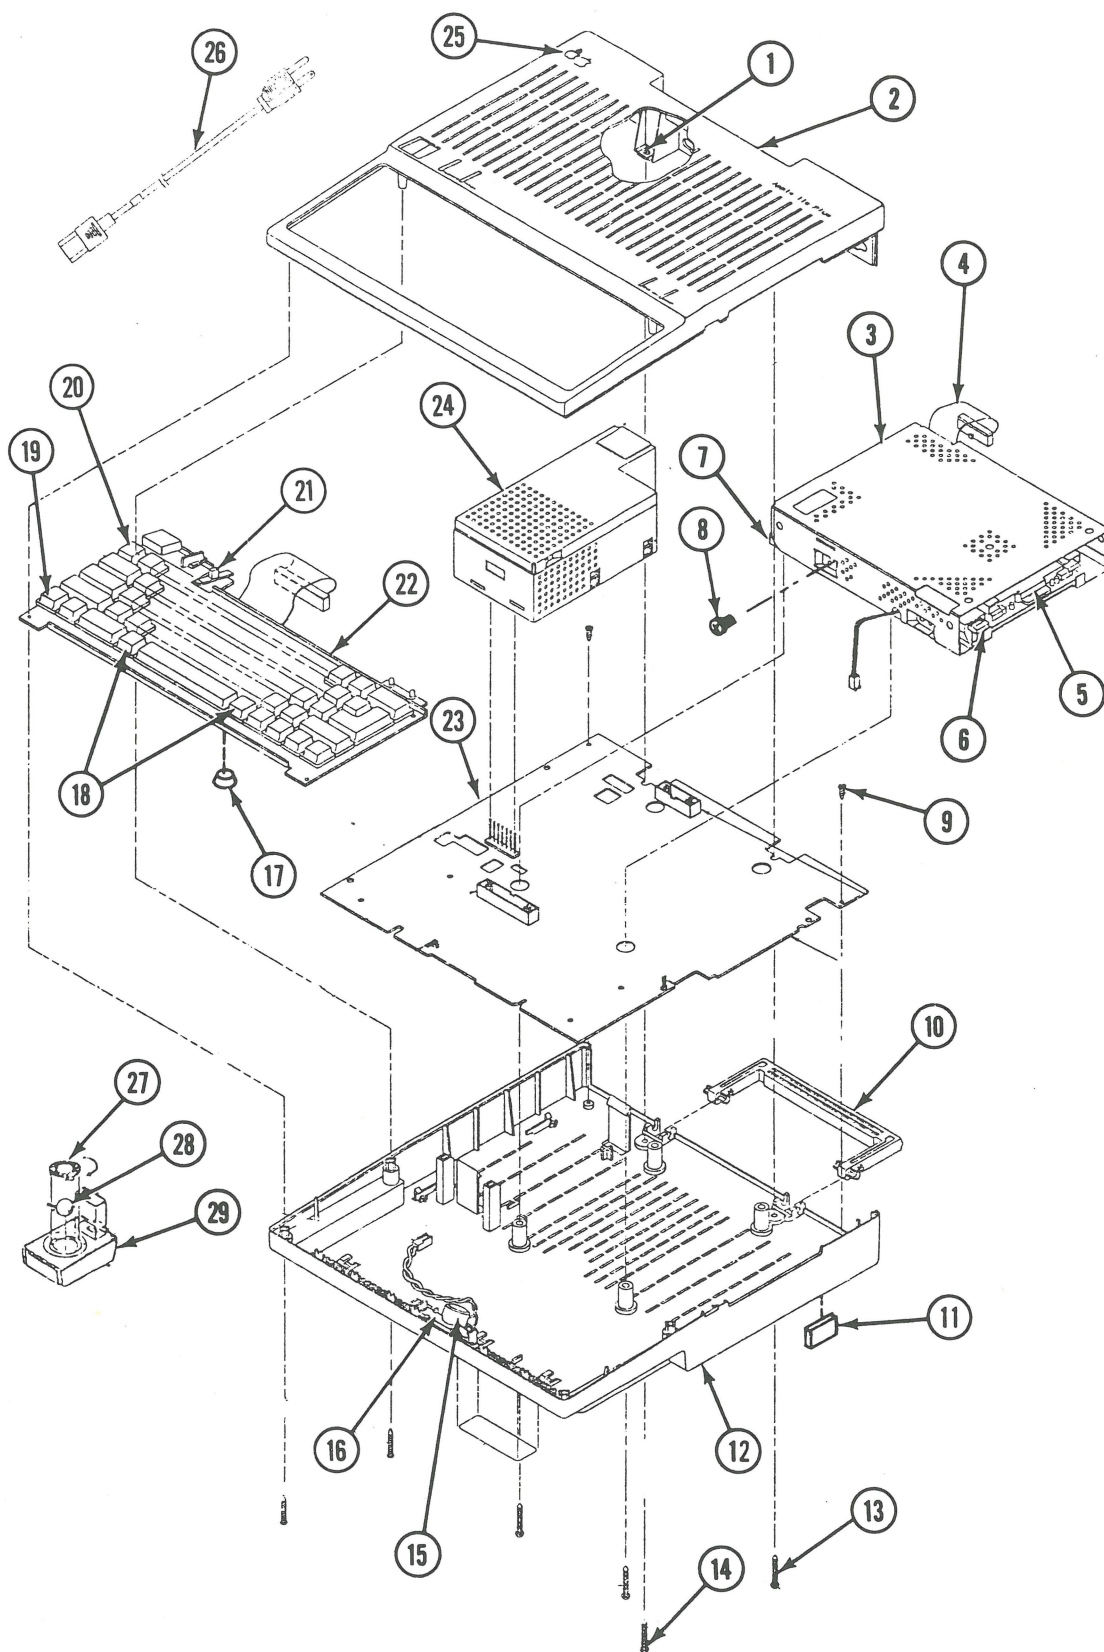

FIGURE 1
IPL.3 Finished-Goods Assembly (Figure 1)
□ FINISHED-GOODS ASSEMBLY (Figure 1)